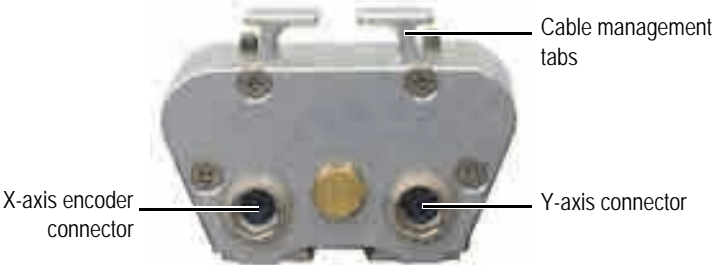
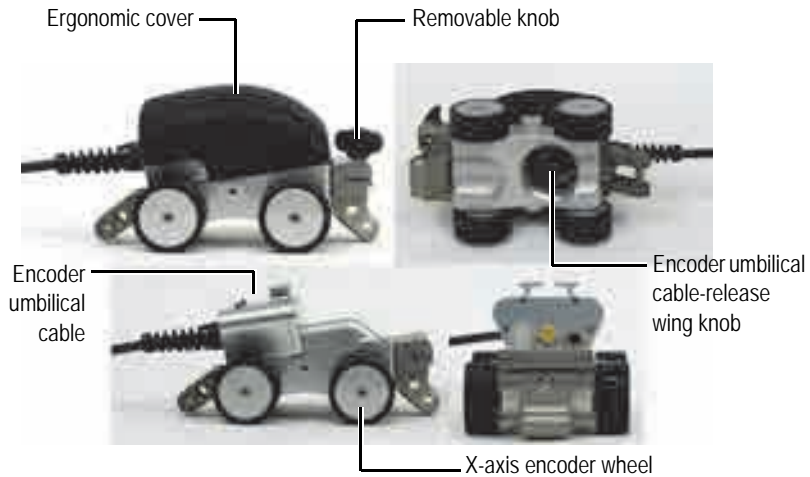

Figure 1-6 The encoder umbilical cable
Figure 1-7 The main module components
The main module of the ChainSCANNER offers an ergonomic grip to manipulate the scanner (see Figure 1-7 on page 18). The main module also holds an internal x-axis encoder and its connector. The umbilical encoder cable connects to the x-axis connector and provides the y-axis encoder connector (see Figure 1-6 on page 17).
2. Locate the encoder umbilical cable-release wing knob under the main module (see Figure 1-7 on page 18).